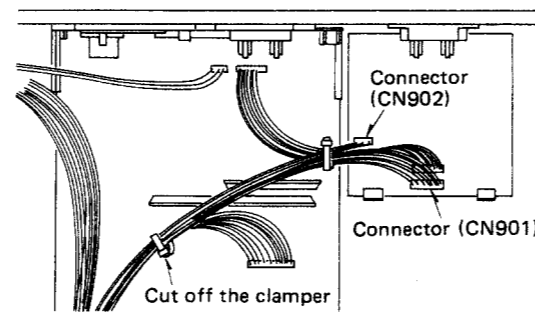

Fig. 3
4. Cut off the wire clampers and pull at the connectors (CN901 and CN902). [Fig. 3].
3. Remove the disc illumination in the direction of the arrow as in Fig. 3.